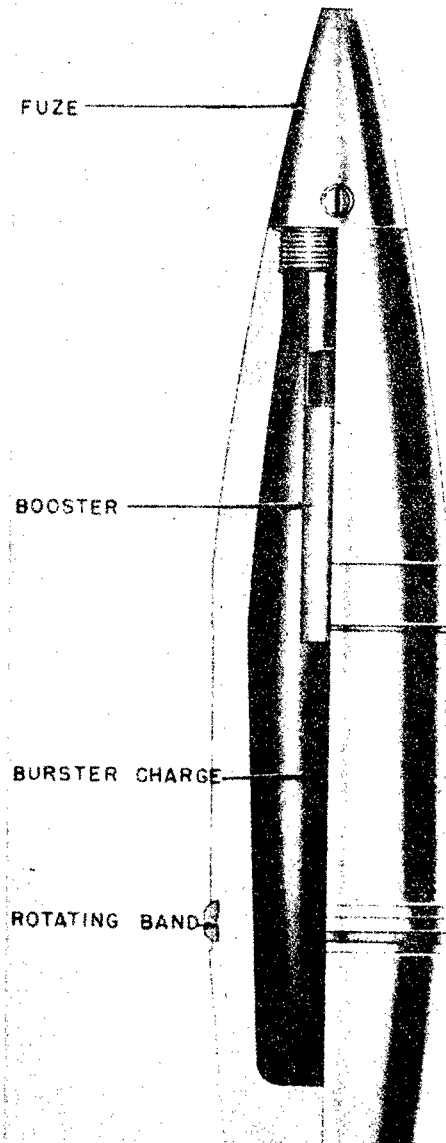

Figure 454—H. E. Projectile, 105-mm, 10-cm Sprgr. 43 (PG)
GERMAN NOMENCLATURE: 10.5-cm Sprgr. 43 (PG). (See fig. 454.)